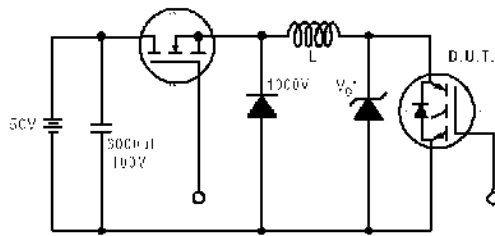

Figure 19. Clamped Inductive Load Test Circuit
- ② $V_{CC}=80\%(V_{GFS})$, $V_{CF}=20V$, $L=10\mu H$, $R_G=10\Omega$ (figure 19)
- ③ Pulse width $\leq 80\mu s$; duty factor $\leq 0.1\%$.
- ④ Pulse width $5.0\mu s$, single shot.